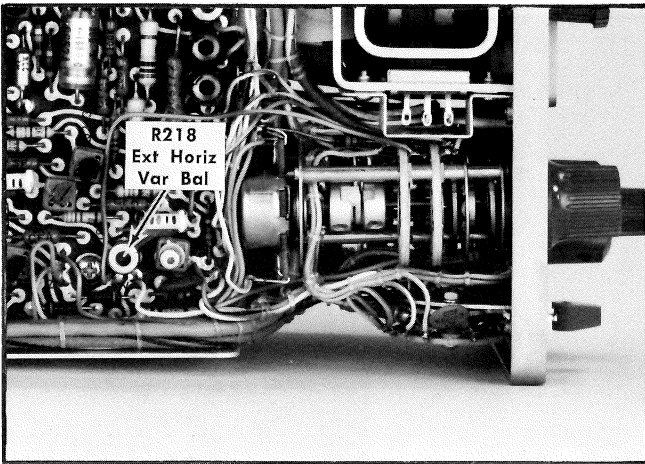

Fig. 6-19. Location of external horizontal variable balance adjustment (Main board).
39. Adjust External Horizontal Variable Balance ①
- c. ADJUST—Ext Horiz Var Bal adjustment, R218 (see Fig. 6-19), for no trace shift as the EXT HORIZ VAR control is rotated. If necessary, use the horizontal POSITION control to keep the dot on the screen during adjustment.